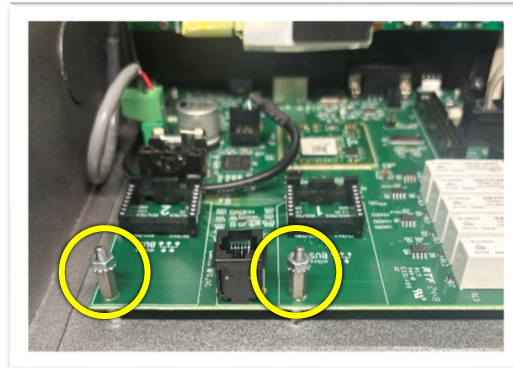

Figure 1.11
- 16) Screw in the two (2) standoffs and two (2) 4-40 nuts on Option Bus 1 and 2. (See Figure 1.11; yellow)